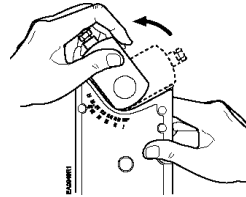

Figure 11
- b. Hold down the **PUSH** button and rotate the shaft adapter to the left until it stops. See Figure 11.